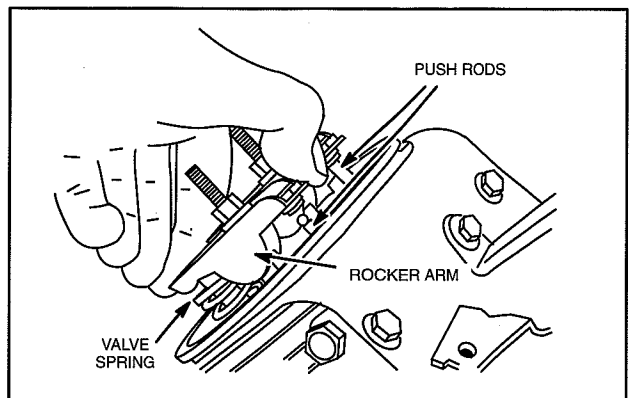

Fig. 25 – Install Push Rods
1. Compress valve spring with rocker arm and insert push rod into rocker arm socket, Fig. 25.